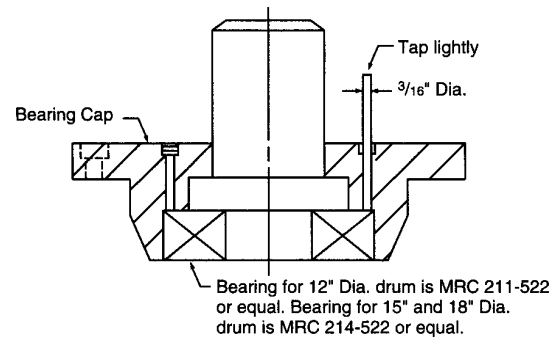

FIGURE 6
5. Tap out bearing using 3/16 (4mm) rod as shown in Figure 6. Alternate between the two holes.